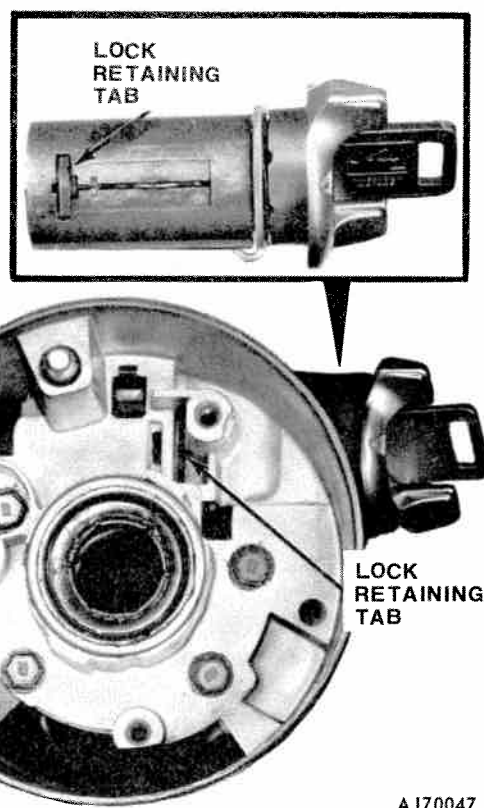

Fig. 11-10 Lock Cylinder Retainer Tab Location
(18) Place lock in LOCK position, depress lock cylinder retaining tab, and remove lock cylinder (fig. 11-10).